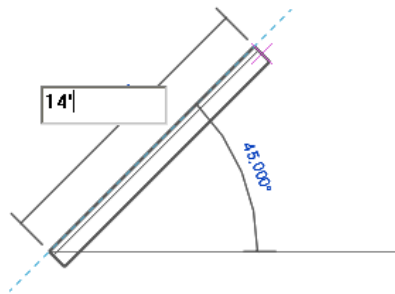

Figure 3-43 Sketching the first inclined wall segment
- f. Select the **Line** sketching option and sketch the inclined wall profile using the **Chain** option, refer to Figures 3-43 through 3-49.
4. Enter the value **14' (4267 mm)** to specify the length of the first wall segment; the value is displayed in the edit box, as shown in Figure 3-43. Press ENTER to create the first wall segment of the specified length.